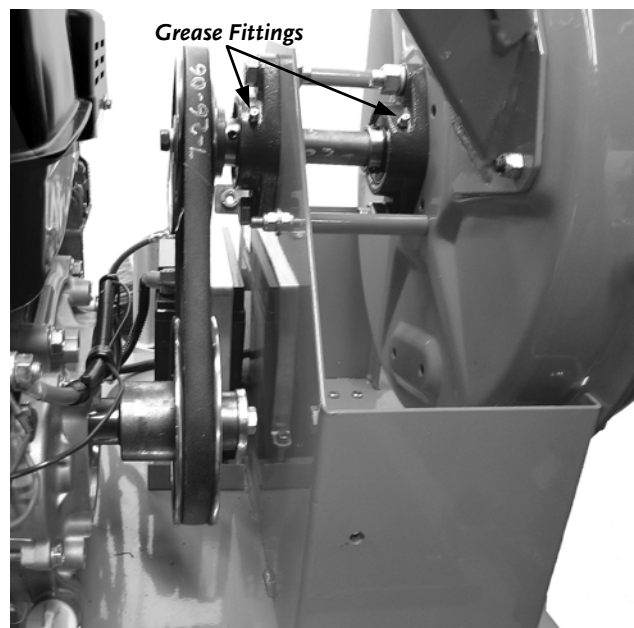

Figure 39b
3. Lubricate each Bearing (**Figure 39b**) with Multipurpose Automotive Grease using a grease gun on the fitting.